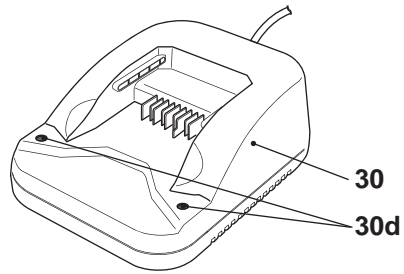

Fig. 11
The indicators (30d) on the charger (30) show the charger status (Fig. 11).